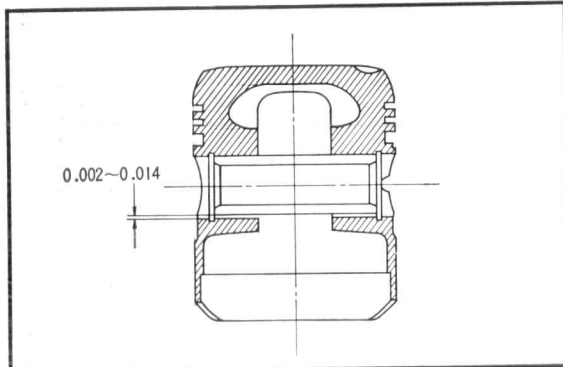

Figure 3-54. Piston pin clearance
- (11) Piston [] are for S50 (Fig. 3-54)